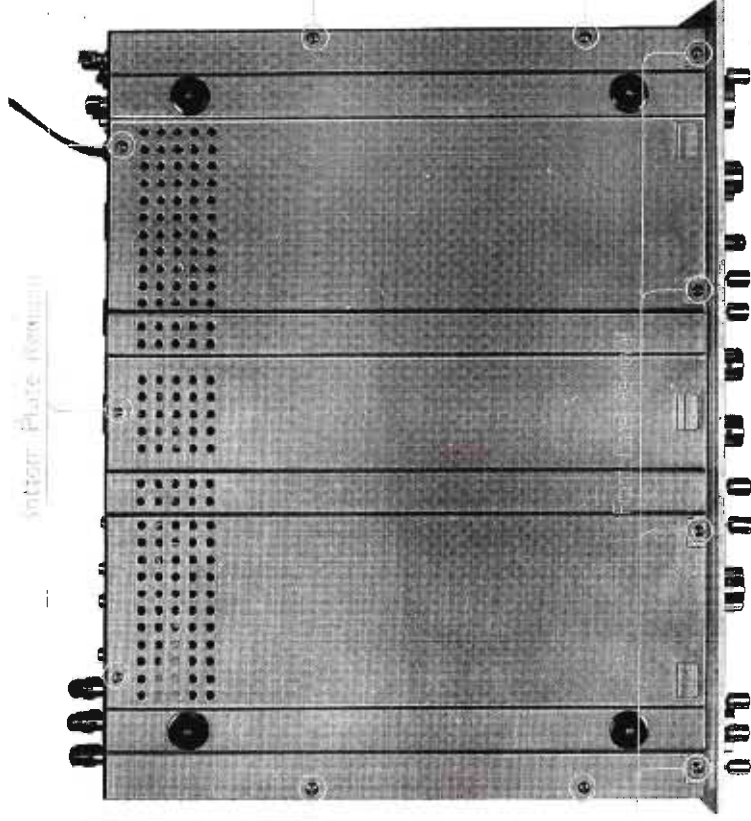

Fig. 2-1-1 Bottom Plate and Front Panel Removal
- (b) Loosen off seven Phillips-Head screws (+RF $3\phi \times 6$) at the bottom of the receiver and pull the bottom plate towards the rear of the receiver. See Fig. 2-1-1.
- (d) Turn the receiver over and loosen off four Phillips-Head screws (+RF $3\phi \times 6$) at the front bottom edge of the chassis. See Fig. 2-1-1. This frees the front panel.